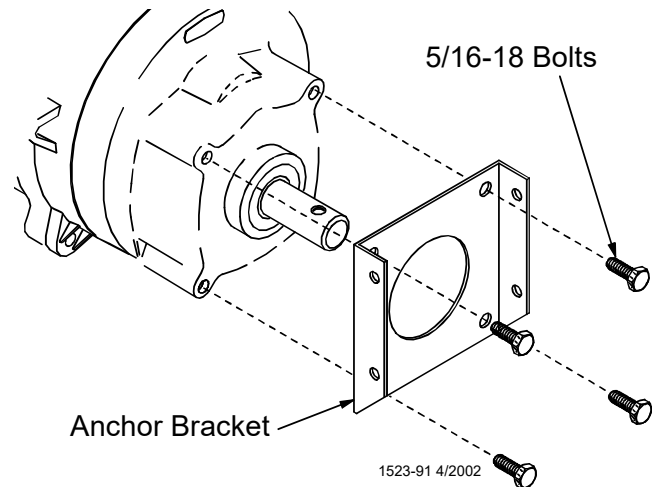

Figure 35. Installing anchor plate
6. Install the Anchor Bracket to the Power Unit/ Gearhead, as shown in **Figure 35**, with the included 5/16-18 Bolts.
9. Turn the Drive Tube Weldment into the auger, then attach to the output shaft of the Power Unit, as shown in **Figure 35**. Use the Driver Block to secure the auger to the Output Shaft